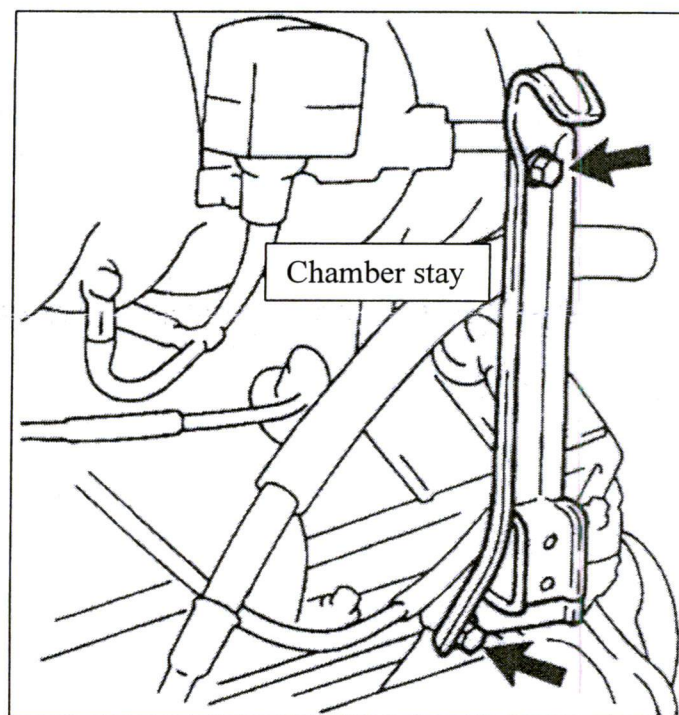

Figure 6
8. Remove the intake chamber stay located on the driver side of the vehicle (Figure 6).
NOTE: Install the chamber stay from Figure 6 while the header is loose and tighten the connection.